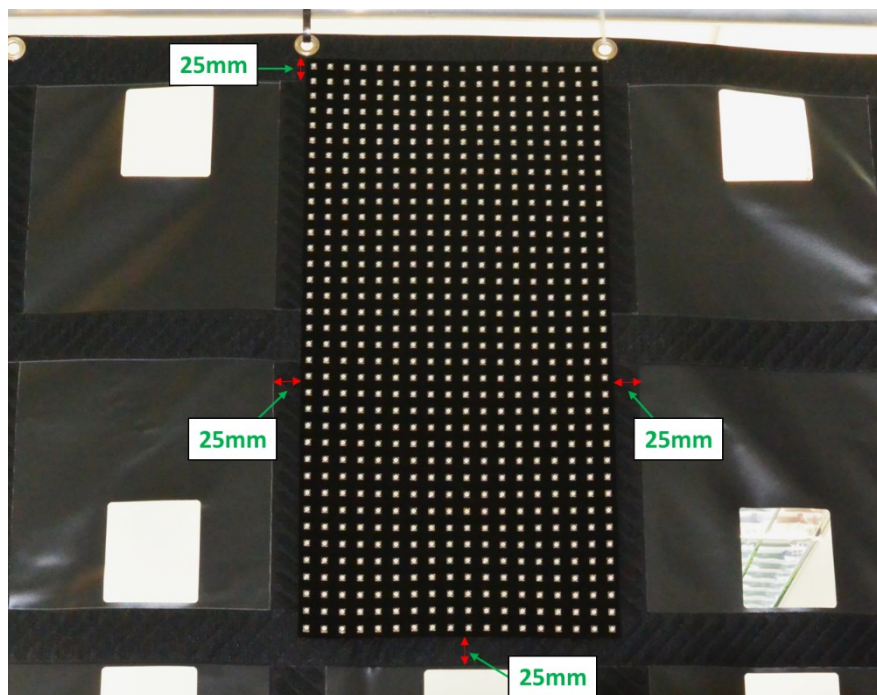

Figure 6: Mounting ledTec.flex to sub-banner
- Attach the loop side on foil to the hook side on sub-banner. Make sure after mounting each foil, there is 25mm width on the hook tape where the next foil will be installed as shown in Figure 6.